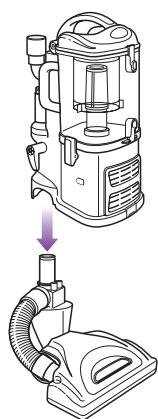

Fig. 8
- 2 Align the tube of the floor nozzle with the tube on the *Lift-Away™* canister and lower until you hear the two pieces click into place. (Fig. 8)